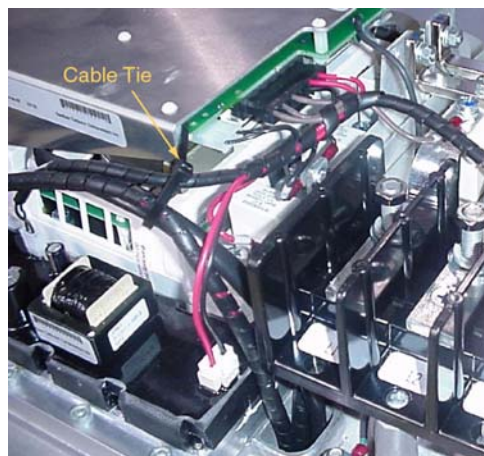

Figure 6-19 Cable Harnesses with Cable Tie
9. Feed a cable tie around the cable harnesses and the Soft Start mounting stud as shown in Figure 6-19.